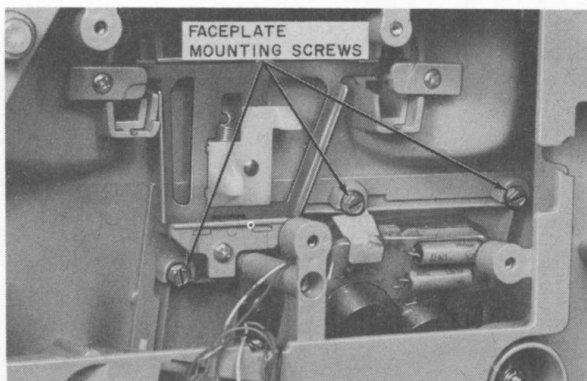
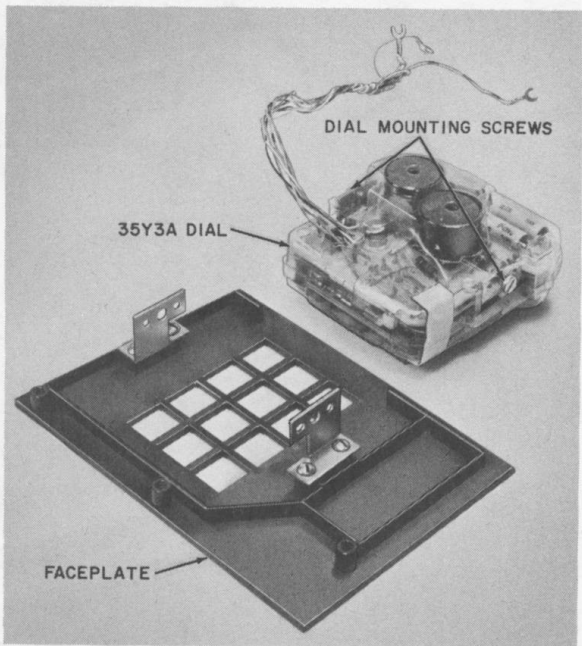

Fig. 8—Removing Faceplate from Set Equipped With TOUCH-TONE Dial
Fig. 9—TOUCH-TONE Dial Removed From Faceplate
- (6) TOUCH-TONE dial equipped sets only—remove three faceplate mounting screws as shown in Fig. 8 and remove the faceplate. Remove two dial mounting screws and remove the TOUCH-TONE dial (Fig. 9).
- (7) TOUCH-TONE dial equipped sets only—replace faceplate (Fig. 9).